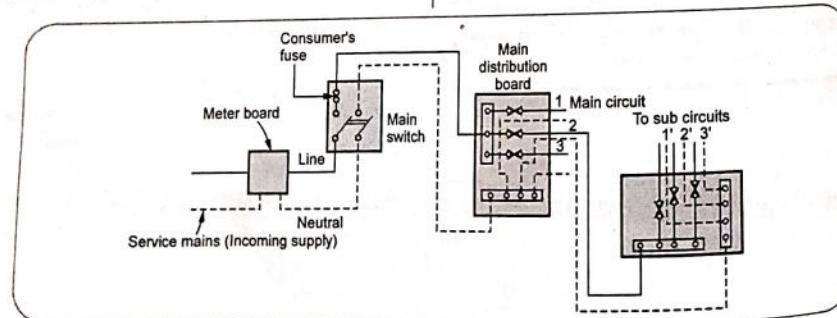

Fig. 6.1.1 Domestic consumer panel wiring scheme
- The Fig. 6.1.1 shows a typical layout of domestic consumer panel wiring scheme.